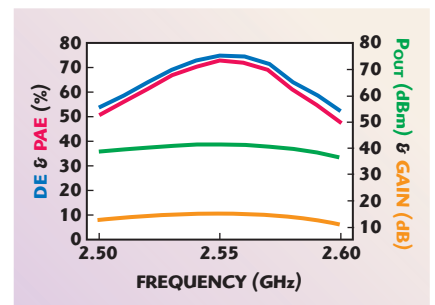

Fig. 4 Measured amplifier performance.
By setting $V_{gs} = -3.6$ V and $V_{ds} = 28$ V with a 26 dBm input power, the measured PAE, drain efficiency (DE), output power and power gain are plotted in Figure 4 within the frequency band from 2.5 to 2.6 GHz. DE is greater than 52 percent, PAE is greater than 47.7 percent and the output power is greater than 36.9 dBm within the 100 MHz bandwidth. The peak DE of 75.2 percent and peak PAE of 73 percent are observed at 2.55 GHz with a maximum output power and power gain of 41.43 and 15.43 dB, respectively.